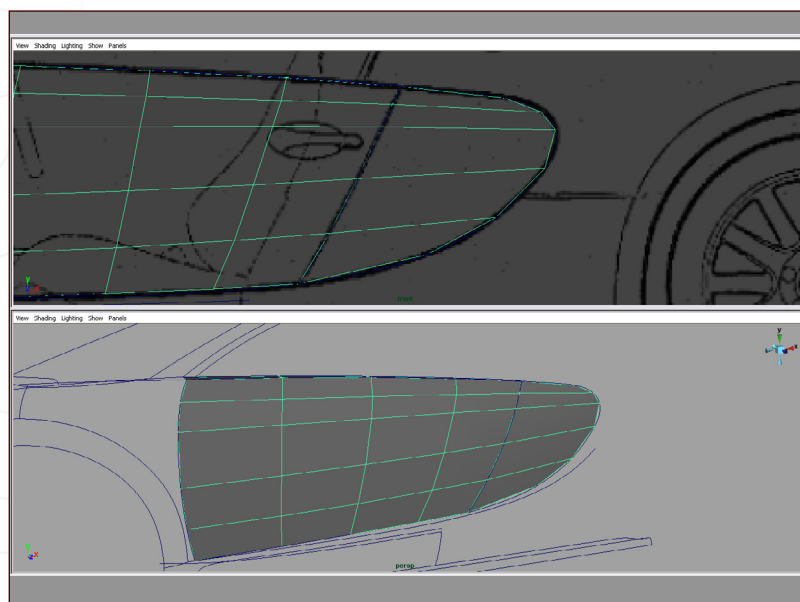

Fig 21
15. Then snap these new verts along the curve to shape the side panel (**Fig21**).